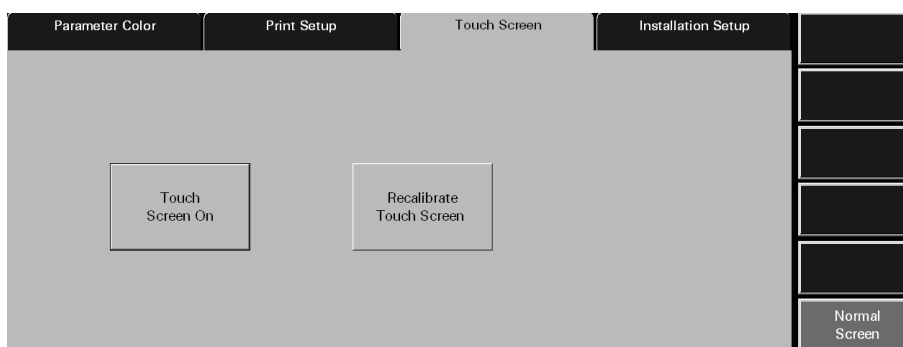

FIGURE 9-2 Touch Screen tab
2. Select the **Touch Screen** tab. A **Touch Screen On/Off** and **Recalibrate Touch Screen** button is displayed in the tab (shown in FIGURE 9-2).